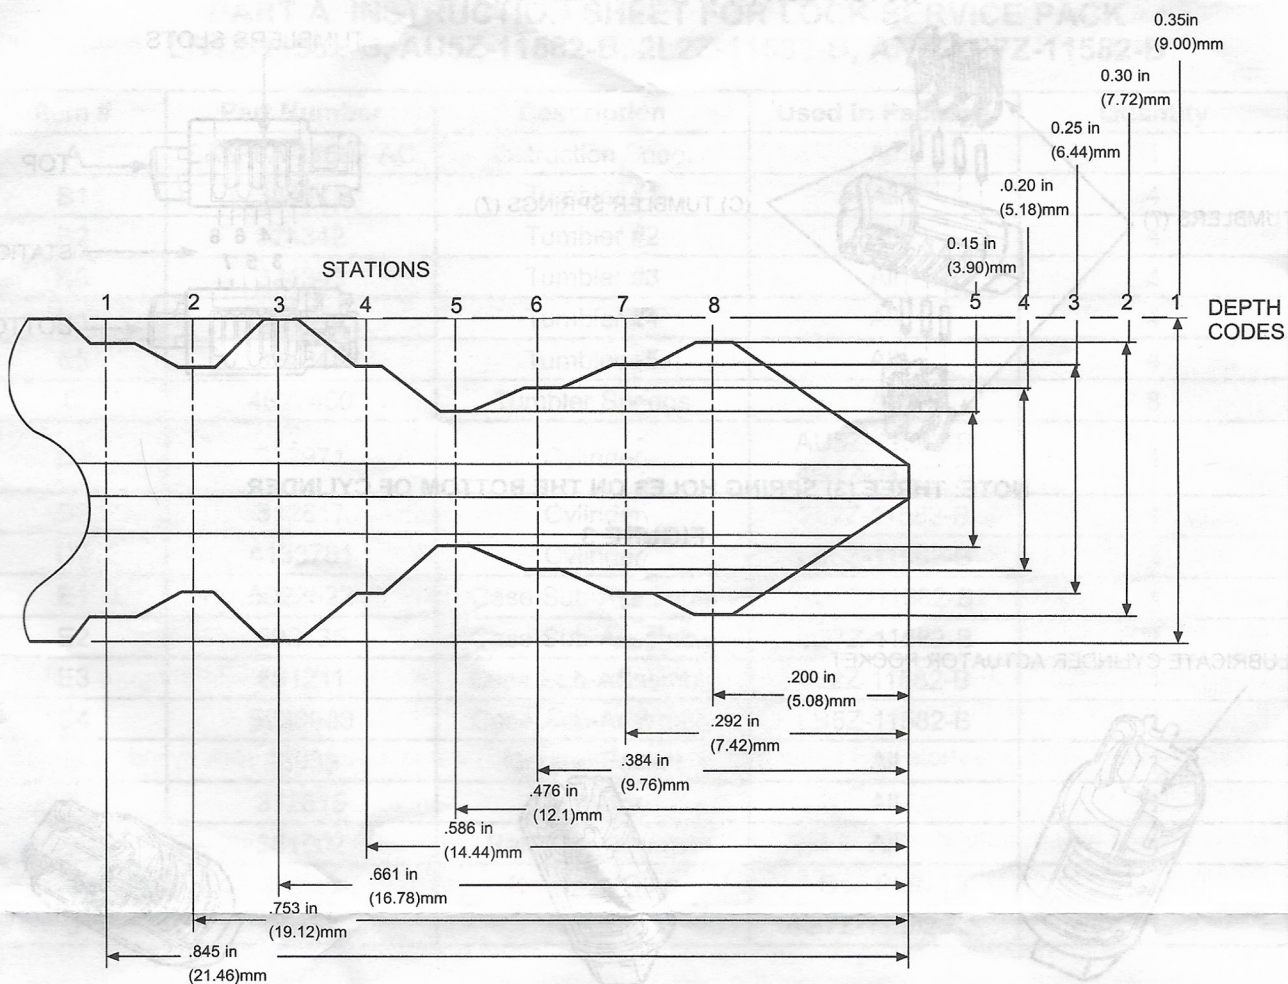

FIGURE 1
- 1c. Using the customer's key, measure the key cut depth at each key station (refer to Figure 1). Write down the key cut depths, in terms of the depth code, not the actual measurements of the depths, in the following order: